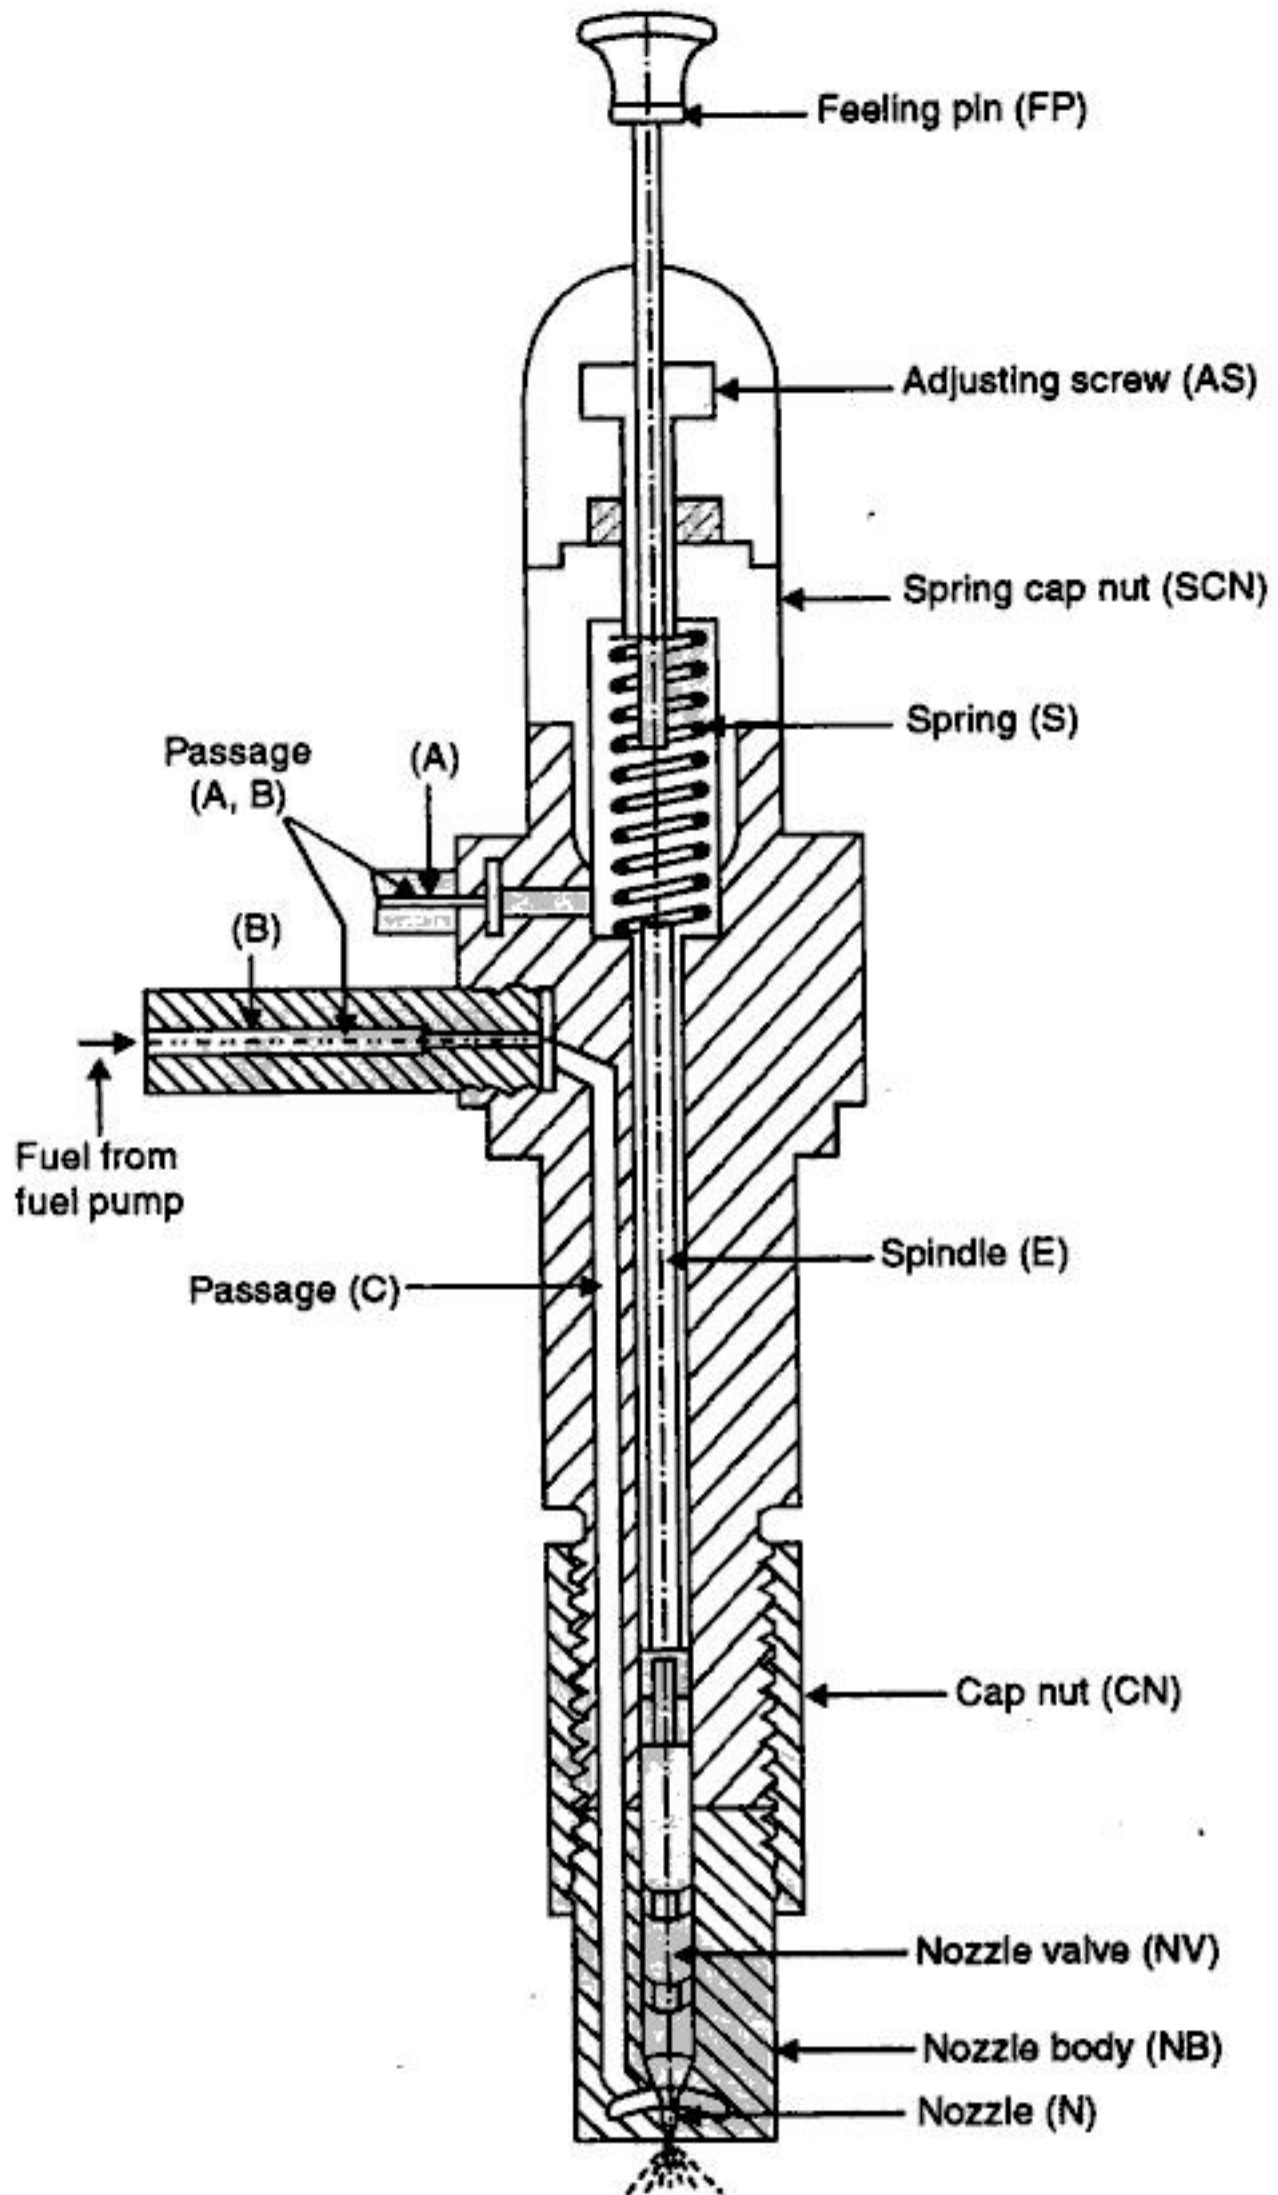

Fig. 2.32. Fuel atomiser or injector.
Refer Fig. 2.32. It consists of a nozzle valve (*NV*) fitted in the nozzle body (*NB*). The nozzle valve is held on its seat by a spring 'S' which exerts pressure through the spindle *E*. 'AS' is the adjusting screw by which the nozzle valve lift can be adjusted. Usually the nozzle valve is set to lift at 135 to 170 bar pressure. *FP* is the feeling pin which indicates whether valve is working properly or not. The oil under pressure from the fuel pump enters the injector through the passages *B* and *C* and lifts the nozzle valve. The fuel travels down the nozzle *N* and injected into the engine cylinder in the form of fine sprays. When the pressure of the oil falls, the nozzle valve occupies its seat under the spring force and fuel supply is cut off. Any leakage of fuel accumulated above the valve is led to the fuel tank through the passage *A*. The leakage occurs when the nozzle valve is worn out.
1. **Suction stroke.** During this stroke (also known as induction stroke) the piston moves from top dead centre (T.D.C.) to bottom dead centre (B.D.C.); the inlet valve opens and proportionate fuel air mixture is sucked in the engine cylinder. This operation is represented by the line 5—1 (Fig. 2.32). The exhaust valve remains closed throughout the stroke.